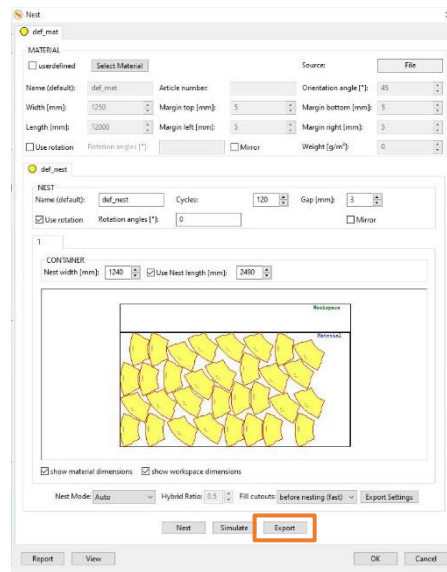

Figure 129
11. Click **Export** as indicated in Figure 129.